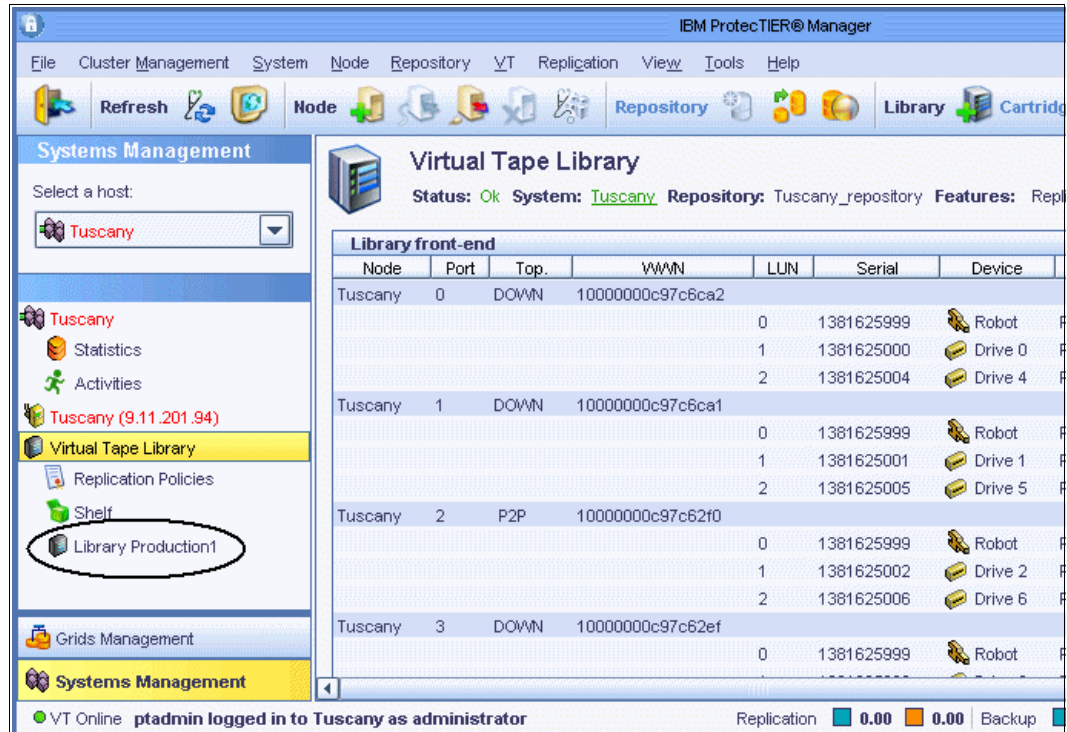

Figure 5-77 New virtual tape library created
13. The newly created library is displayed in the left pane and the right pane shows the details of the virtual library you have just created, as shown in Figure 5-77.